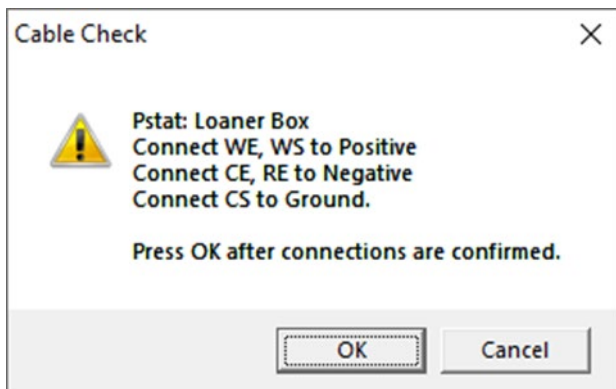

Figure 3- the "Cable Check" dialog box which helps ensure the leads are connected properly based on the Cell Type selected on Page 1 of the setup screen
- g. Cable check should be on to make sure your leads are going to the correct terminals. Click "OK" to bring up the Cable Check dialog box. See figure 3